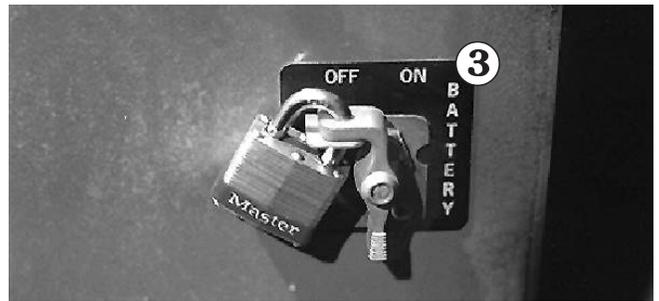

Figure 10.3
2. Turn the **Battery** switch **3** OFF and padlock it (see Figure 10.3).